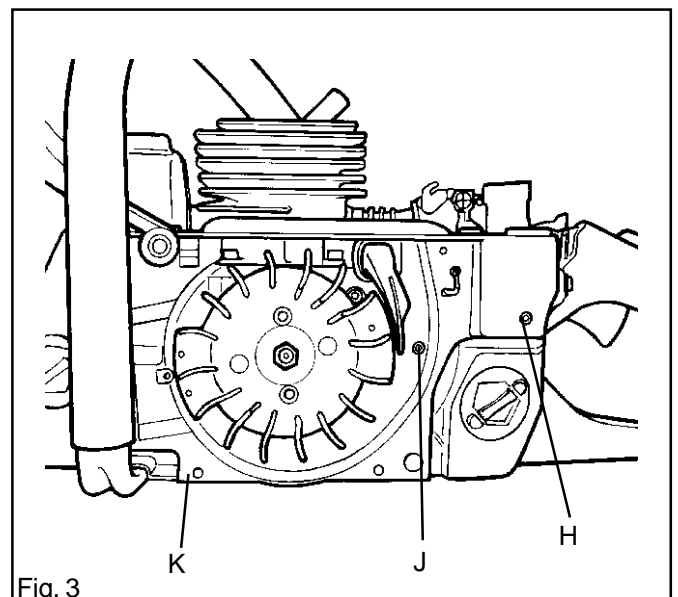

Fig. 3
7. Remove the bolts (H, J and K) from the flywheel side. See fig. 3.
See fig. 3. Tighten the bolts to the torque in the service data, page 10.
Screw in the thread insert with a suitable bolt and key. See fig.3.
1. That the cylinder's surface coating is not worn. Especially in the upper part of the cylinder. See fig. 3.